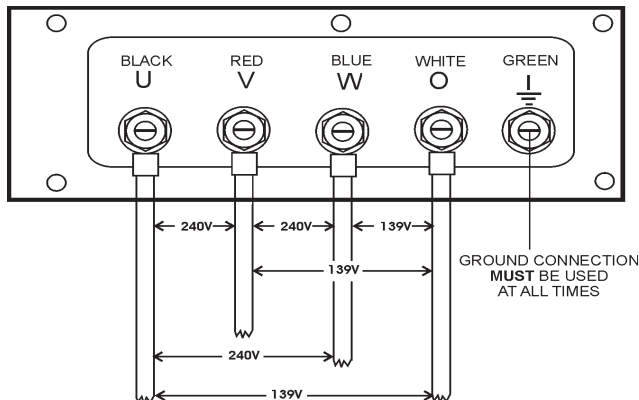

Figure 23. Output Terminal Lugs 240/139V Three Phase Connections
2. Connect the load wires to the **Output Terminal Lugs** as shown in (Figure 23).